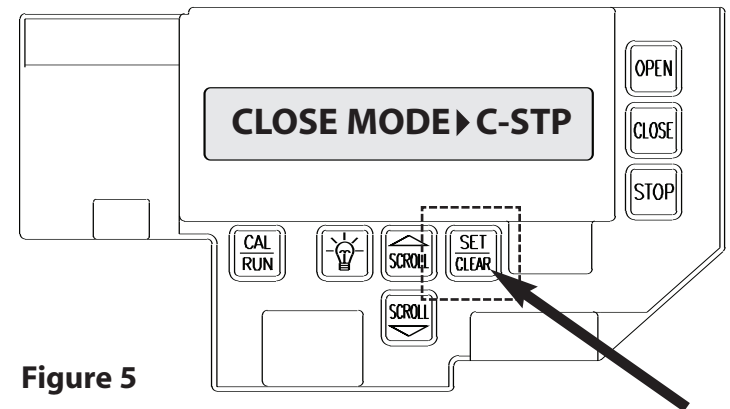

Figure 5
- 4) Press SET/CLEAR until display reads “CLOSE MODE > C-STP.” **Fig. 5.**